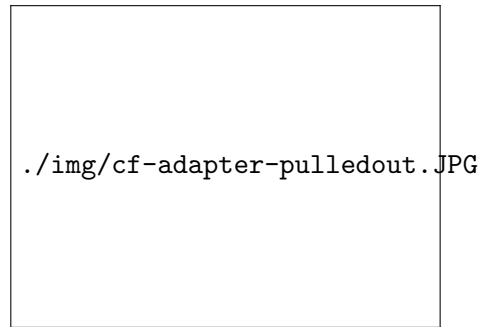

Figure 5.5: Stem pulled out.
9. Gently pull the stem out half an inch. **If you pull too far you will break the adapter; see Figure 5.5.** If TL was under vacuum, you will hear a hiss indicating the vacuum jacket is vented.
4. Pull the stem back about an inch. **If you pull too far you will break the adapter; see Figure 5.5.** You should not hear a hiss.